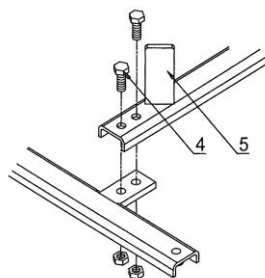

Fig. 2
3. Attach beam 2 (#5) to beam 3 and beam 1 using M12 x 30 bolts (#4) and M12 nuts (Fig. 2).